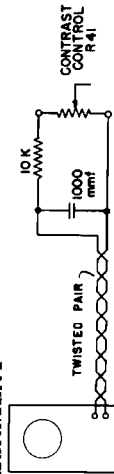

Figure 10
5. Connect a sweep generator to the converter and an oscilloscope in place of the meter. (See figure 10.) Check the peaks of the response for symmetry.
4. Connect an oscilloscope across contrast control R41, as shown in figure 10. Turn the contrast control trimmers C8 and C11 for on full.